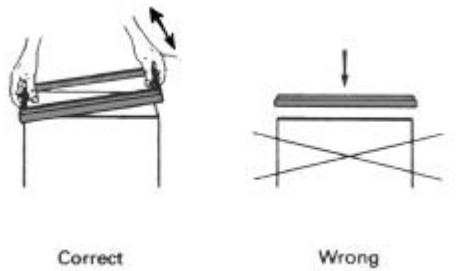

Figure 2
See Figure 2. Remove the plastic bezels (1) from around the front and rear of the Halimeter, by pulling the right side of each bezel outward and toward you.